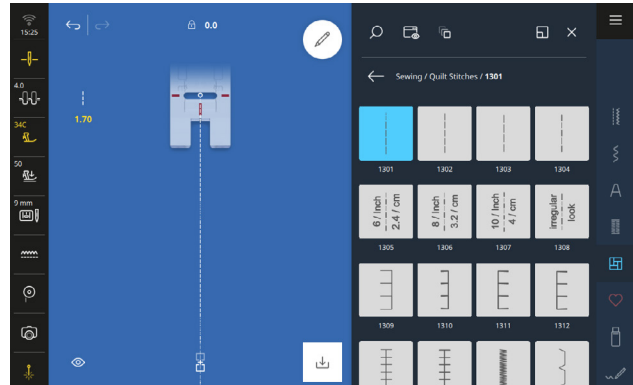

Fig. 13
- Precise placement:** Following the exact printed lines on your paper foundation is key to achieving your desired result. Use a presser foot with clear visibility, like the Open Embroidery Foot #20C or Reverse Pattern Foot with Clear Sole #34C/34D (Fig. 13). Activate the Laser to see exactly where the needle will land, so your seams start and end precisely on the printed lines.